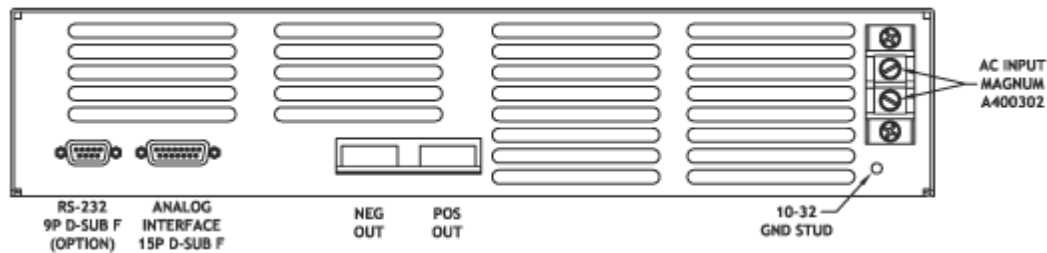

Figure 3
2. **Connecting to Diode Laser:** Figure 3 shows the location of the LDD-3000 output terminals. Connect diode laser load to the output terminals. Although CW diode laser applications are generally free of voltage spikes associated with high speed Quasi-CW applications, it is still good practice to keep connections between the diode laser and power supply as short as possible to minimize inductance and avoid I^2R losses in the wire.
3. **Interface Connection:** Connect user interface to Analog Interface 15 pin D-sub connector shown in Figure 3. (Although this interface is typically designed by the user, Lumina Power can provide any assistance necessary to modify interface program and monitor levels) See Table 2 and related schematic for a description of the LDD-3000 Interface Pinout.
4. **AC Input Power Connection:** Connect AC power connections to power supply input power terminals as follows (refer to Table 3 and Figure 3.):
- AC Connections (#12AWG) are connected to the terminal strip connections shown in Figure 3.
- Ground wire (#12AWG) is connected to the ground stud shown in Figure 3.